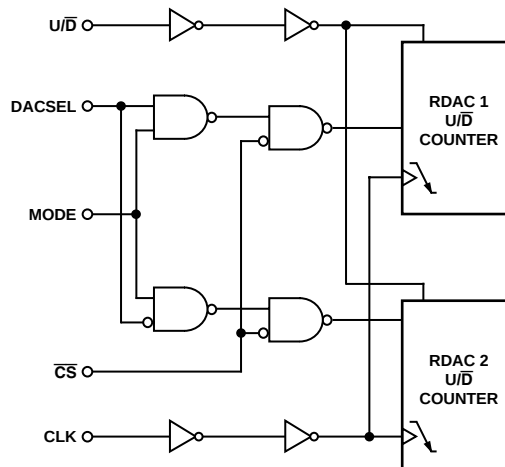

Figure 30. Detailed Digital Logic Interface Circuit
The AD5222 contains a push-button controllable interface. The active inputs are clock (CLK), $\overline{CS}$ and up/down (U/D). While the MODE, and DACSEL pins control common updates or individual updates. The negative-edge sensitive CLK input requires clean transitions to avoid clocking multiple pulses into the internal UP/DOWN counter register, Figure 30. Standard logic families work well. If mechanical switches are used for product evaluation a flip-flop or other suitable means should debounce them. When $\overline{CS}$ is taken active low, the clock begins to increment or decrement the internal up/down counter, dependent upon the state of the U/D control pin. The UP/DOWN counter value (D) starts at 40_H at system power ON. Each new CLK pulse will increment the value of the internal counter by 1 LSB until the full-scale value of $7F_H$ is reached, as long as the U/D pin is logic high. If the U/D pin is taken to logic low, the counter will count down, stopping at code 00_H (zero-scale). Additional clock pulses on the CLK pin are ignored when the wiper is at either the 00_H position or the $7F_H$ position. The detailed digital logic interface circuitry is shown in Figure 30.